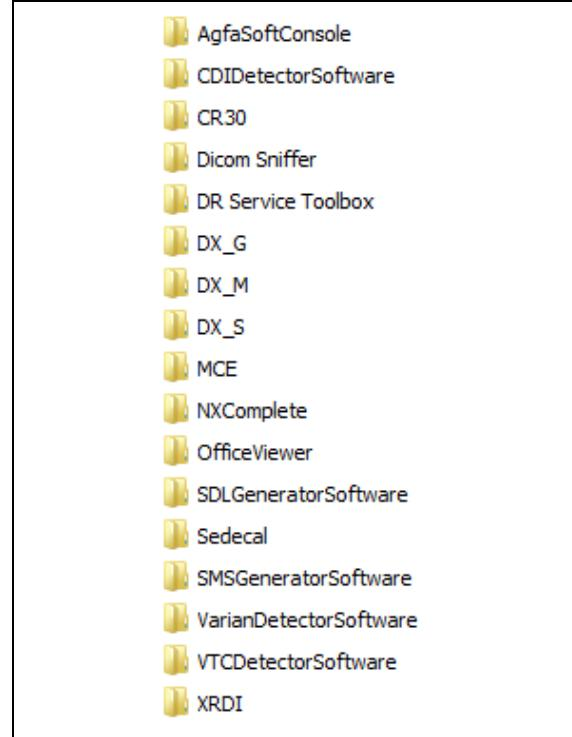

Figure 7: Example
- (1) If not yet done:
- (2) Check which additional installers (e.g. Agfa SoftConsole, Varian Detector Software etc.) are required for the system. Refer to chapter 4.1.2.
- (3) Copy the required installers to **C:\AgfaHealthcare\NX\Installers** in the appropriate subdirectories. See Figure 7.